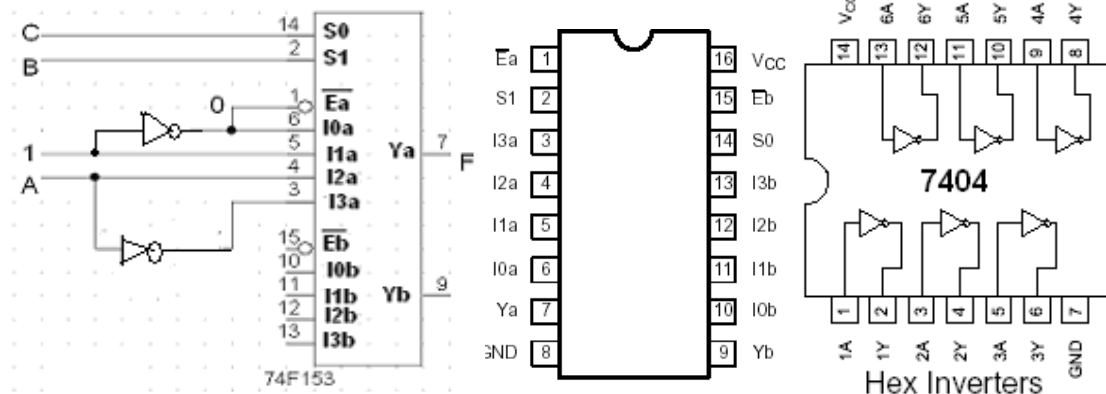

Fig. 11-2: Circuit for implementing $F(A, B, C) = \sum(1, 3, 5, 6)$ with a Multiplexer
Step 1: Install the components of Fig. 11-2 onto the breadboard of AT-700 and properly link the connections.
Step 2: Connect the Data switches "0", "1", and "2" to point A, B and C of fig. 11-2 respectively. Connect Data switch "3" to point 1 in the figure and keep it at the "1" position. Then connect 8 bit LED Display's "0" to the point F of Fig. 11-2.